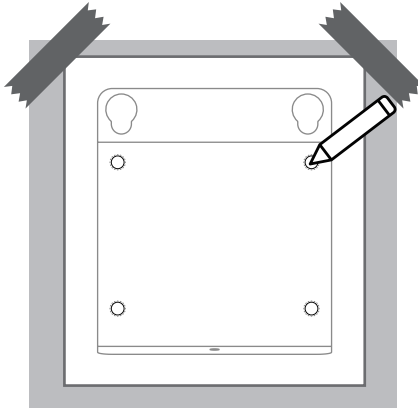

Fig. 5-10
2. Mark the mounting holes on the wall with the installation template. (See Fig. 5-10)